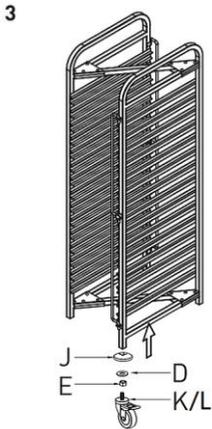

Fig. 3
3. Fix 4 swivel casters, (**K**) and (**L**), on lateral sections. Place 1 nut (**E**), 1 washer (**D**), and 1 damper (**J**) on swivel casters and screw them into the square tubing of lateral sections (Fig. 3).